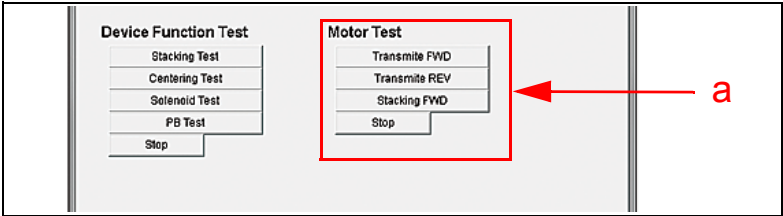

Figure 11 Motor Test Selection Screen
- 2. In the “Motor Test” Section, click on the desired Test’s Screen Button to begin the Test (see Figure 11 a).